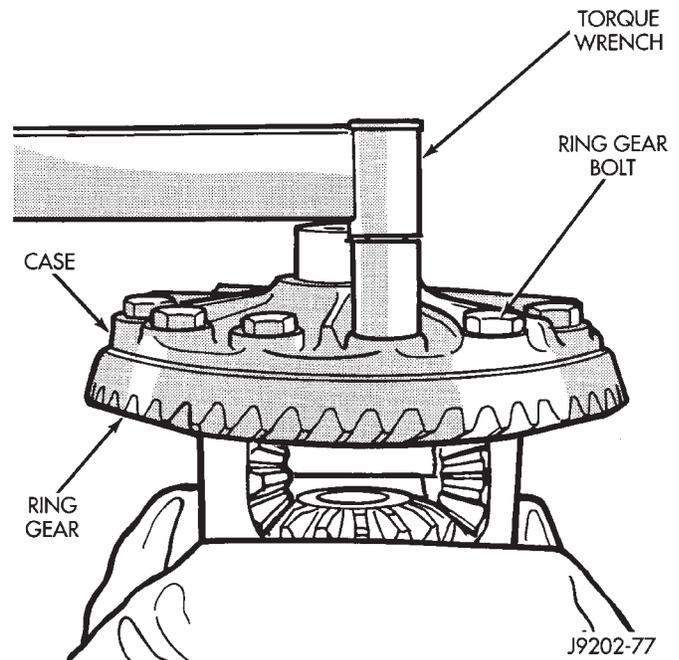

Fig. 36 Ring Gear Bolt Installation
- (1) Invert the differential case and start two ring gear bolts. This will provide case-to-ring gear bolt hole alignment.
- (2) Install new ring gear bolts and alternately tighten to 61-81 N•m (45-60 ft. lbs.) torque (Fig. 36).